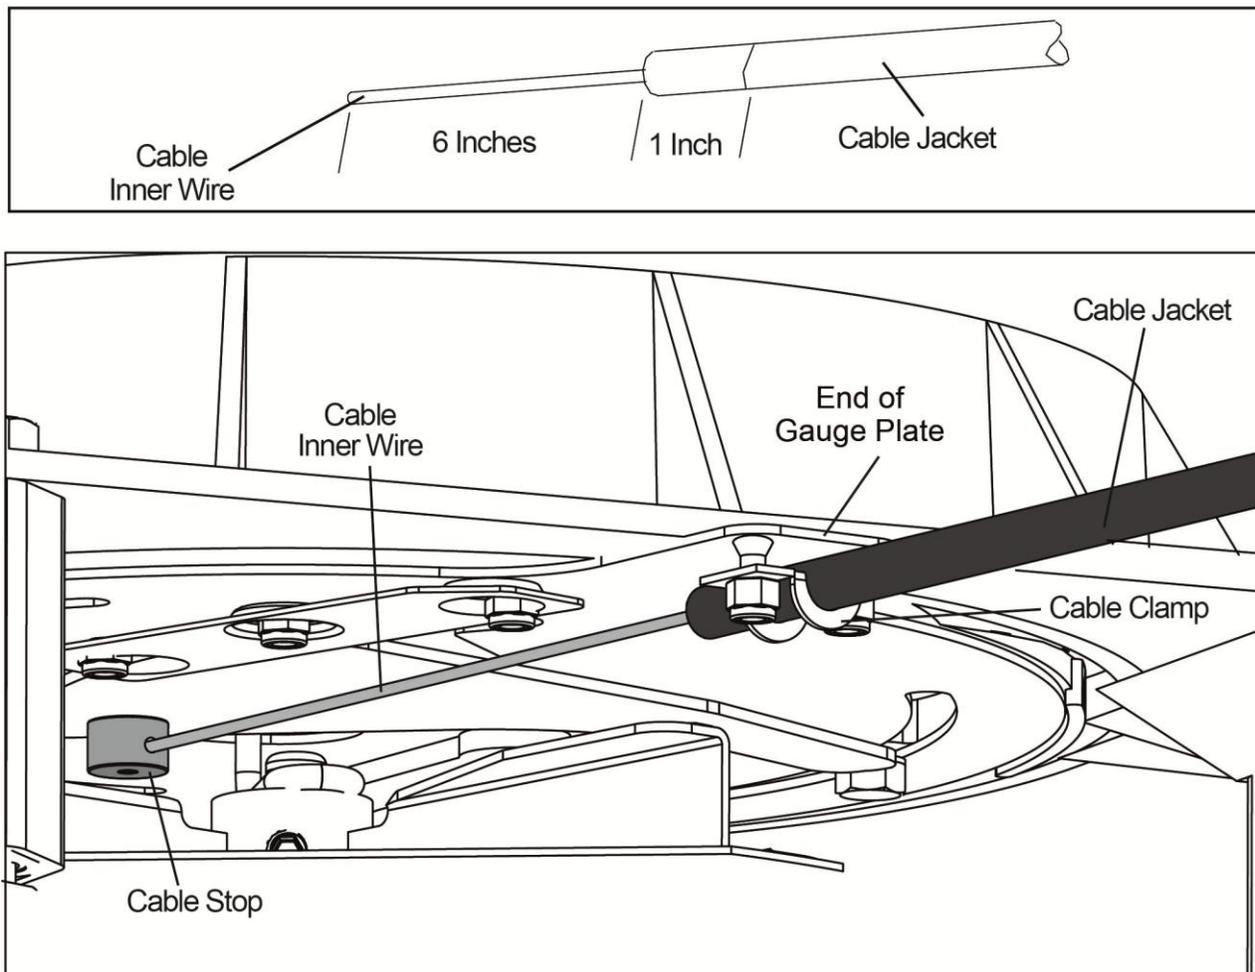

Figure 1-8
6. Pull cable knob out 6 inches. Cut cable jacket and inner wire cable 1 inch BEYOND mark on jacket. After cutting, push in the knob. Let the inner wire extend 6 inches beyond the jacket see Figure 1-8.